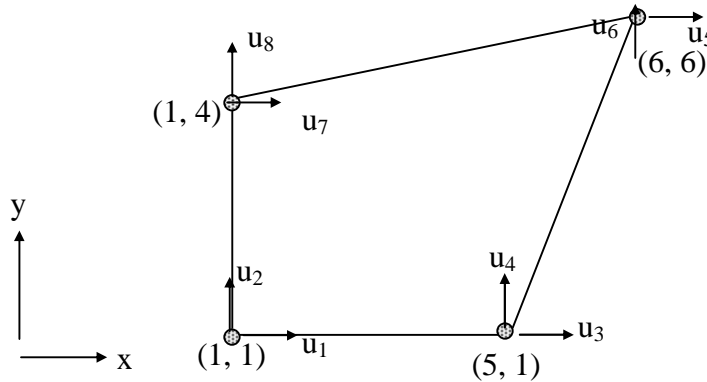

Fig. 4
- b) Using a 2×2 rule, evaluate the integral $\iint_{\Omega} (x^2 + xy^2 + y^2 + yx^2) dx dy$ by Gaussian quadrature where Ω denotes the region shown in Fig.4.